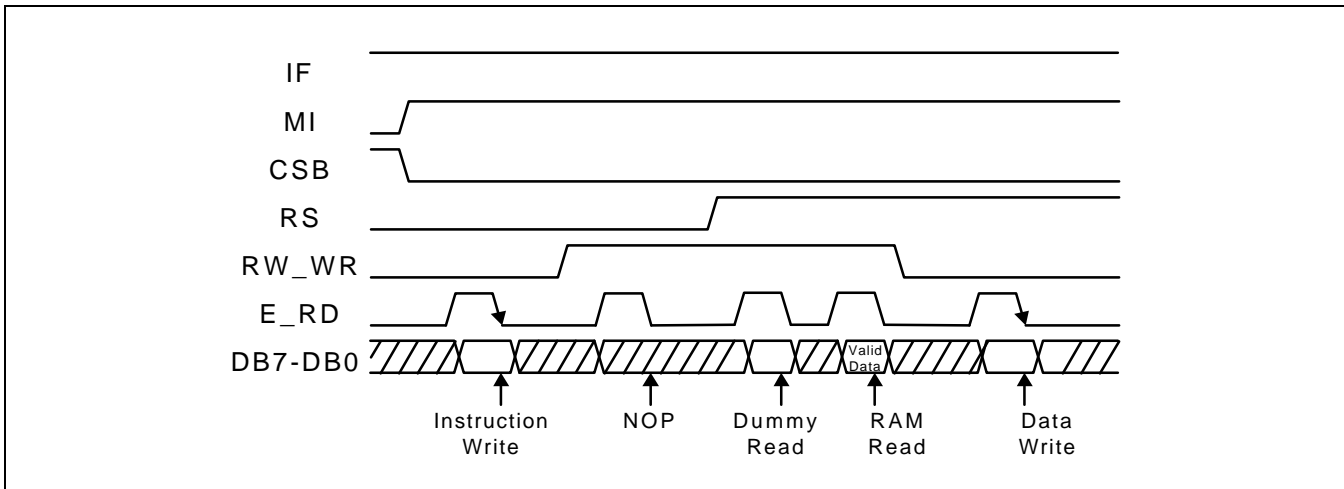
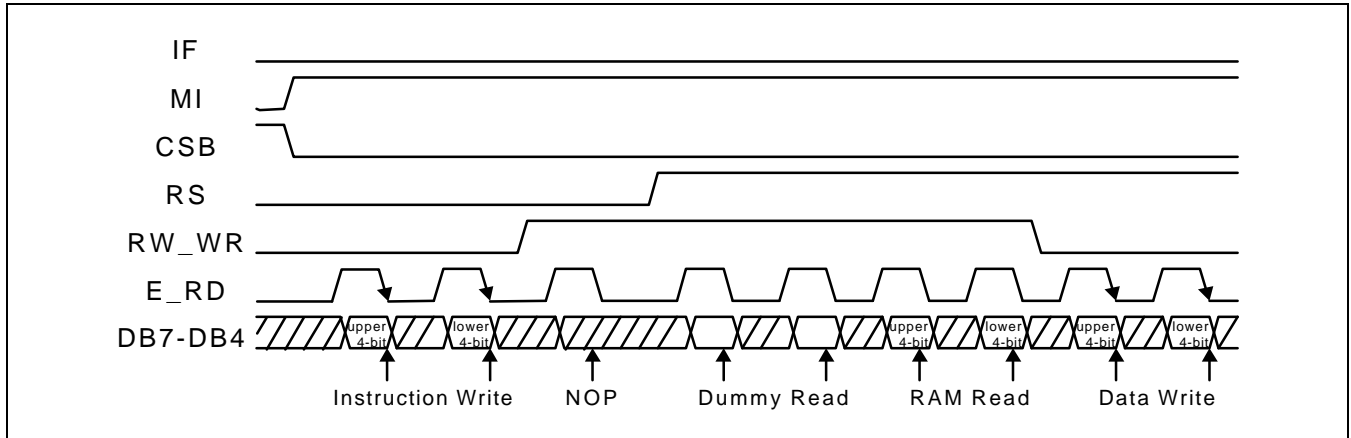

Figure 3. Timing Diagram of 8-bit Parallel Bus Mode Data Transfer (68-series MPU Mode)
Figure 5. Timing Diagram of 4-bit Parallel Bus Mode Data Transfer (68-series MPU Mode)
During reading operation, 8-bit register, output data register (OR) is used. The output data register (OR) is used as temporary data storage place for being read from DDRAM / CGRAM / ICONRAM and one of these RAM is selected by RAM address setting instruction. After RAM address setting, first reading is a dummy cycle in 8-bit bus mode (figure 3, 4). The valid data comes from second reading. In 4-bit bus mode, after RAM address setting, first and second reading are dummy cycles (figure 5, 6). The valid data comes from third reading. The dummy read make the address counter (AC) increased by 1. So it is recommended to set address again before writing. The instruction read cycle is not supported and it is regarded as a no operation cycle.